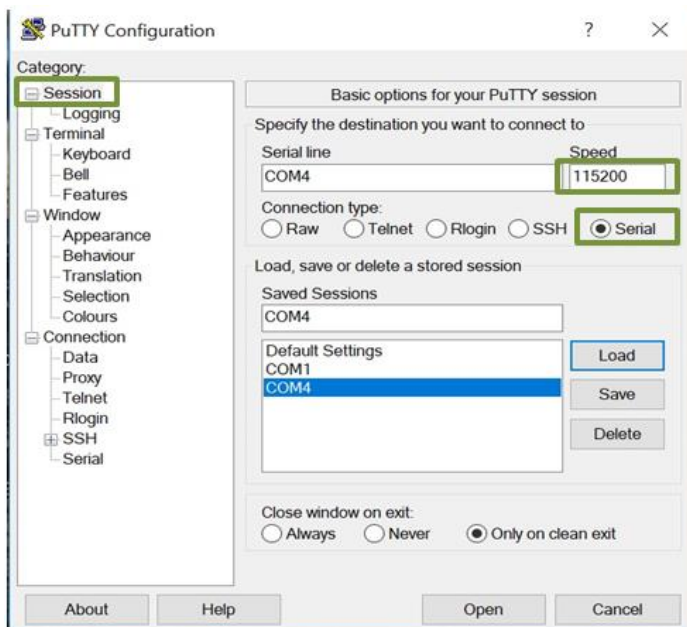

Figure 9: PuTTY Configuration - 3
4. Select "Session" under "Connection Type", select "Serial" (refer to Figure 9).
5. In the "Serial line" box, type "COMx" where x is the COM port # that Windows has assigned to Arduino UNO board (refer to Figure 9).
6. In the "Speed" box, type "115200" to set the baud rate (refer to Figure 9).
7. In the "Saved Sessions" box, type "COMx" where x is the COM port # that Windows has assigned to Arduino UNO board (refer to Figure 9).
8. Click "Save" to save the COMx configuration file (refer to Figure 9).
9. Click "Open" to launch PuTTY (refer to Figure 9).